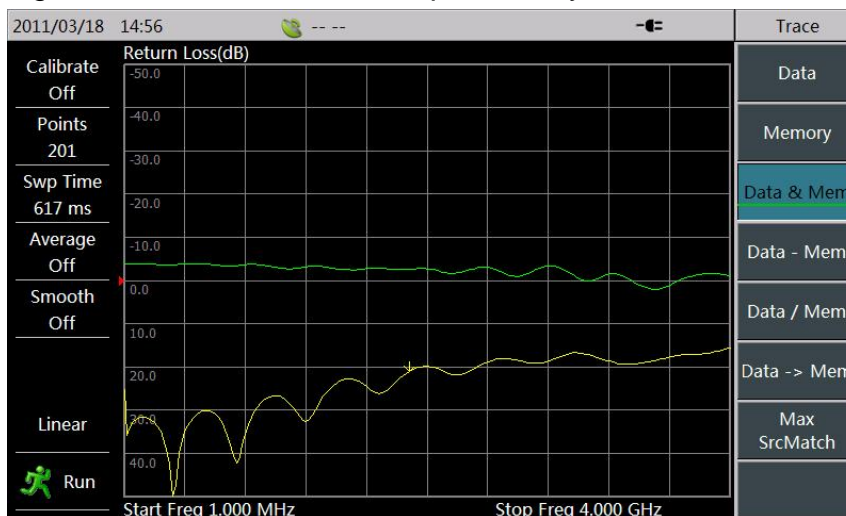

Figure 3-33 Trace Display
- Press [Data & Mem] key, then two traces corresponded with the measured data and stored data are displayed on the screen. As shown in Figure 3-33, the stored trace is in green, and the current sweep trace is yellow: